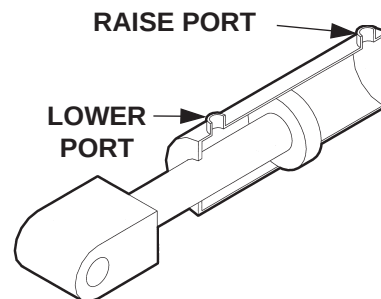

FIG. 52-2
2. Check the Hydraulic Cylinder. With the Platform on the ground, remove the hydraulic line from the Lower Port of the Cylinder (**FIG. 52-2**). Raise the Platform even with the bed. Allow pump motor to run two seconds more while you watch for hydraulic fluid at the Lower Port. A few drops of hydraulic fluid escaping the port is normal; however, if it streams out, Piston Seals are worn. Replace Seals.